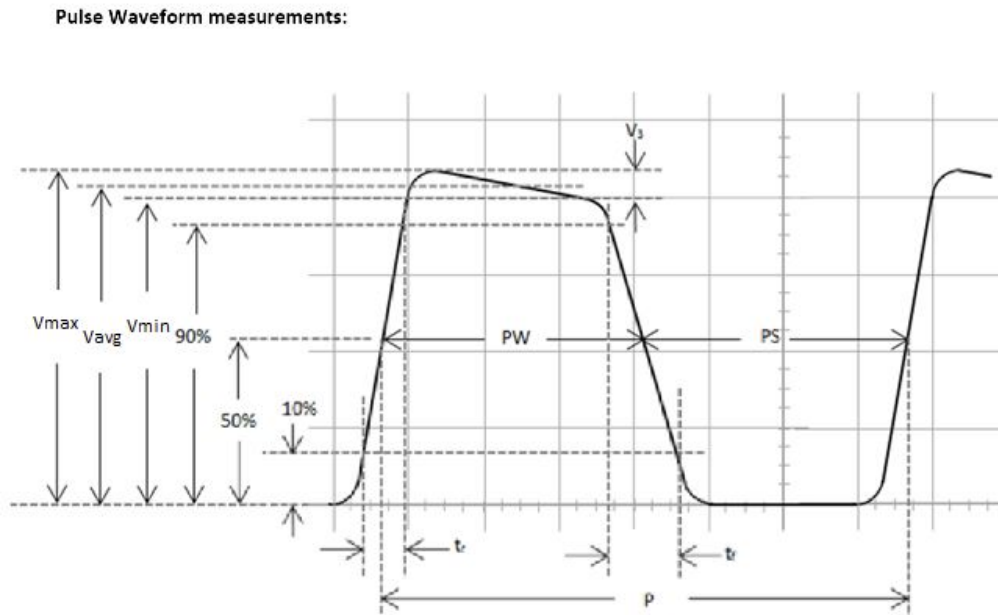

Figure 2.2: Pulse Waveform Measurements
- (b) Draw or attach Figure 2.2 *Pulse Waveforms Measurements*.